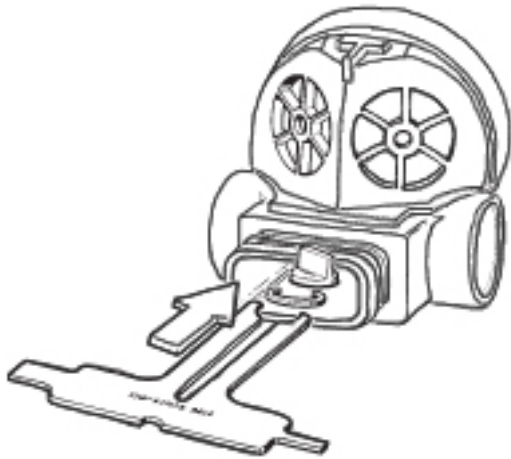

Figure 34 - Circlip installation
- While holding the anti-venturi vane in place, turn the box bottom upside down with the open side facing away. Lay the circlip (16) inside the mouthpiece boss, with its flat side facing up. Rotate the circlip as needed to position the open end directly behind the stem of the vane.
- Place the tines of the Micra pre-adjustment tool (PN 100168) squarely behind the circlip, and press the circlip evenly onto the groove of the vane stem until it audibly snaps into place (see Figure 34). Examine closely to ensure that the circlip is seated evenly over the stem of the vane, inside the groove.